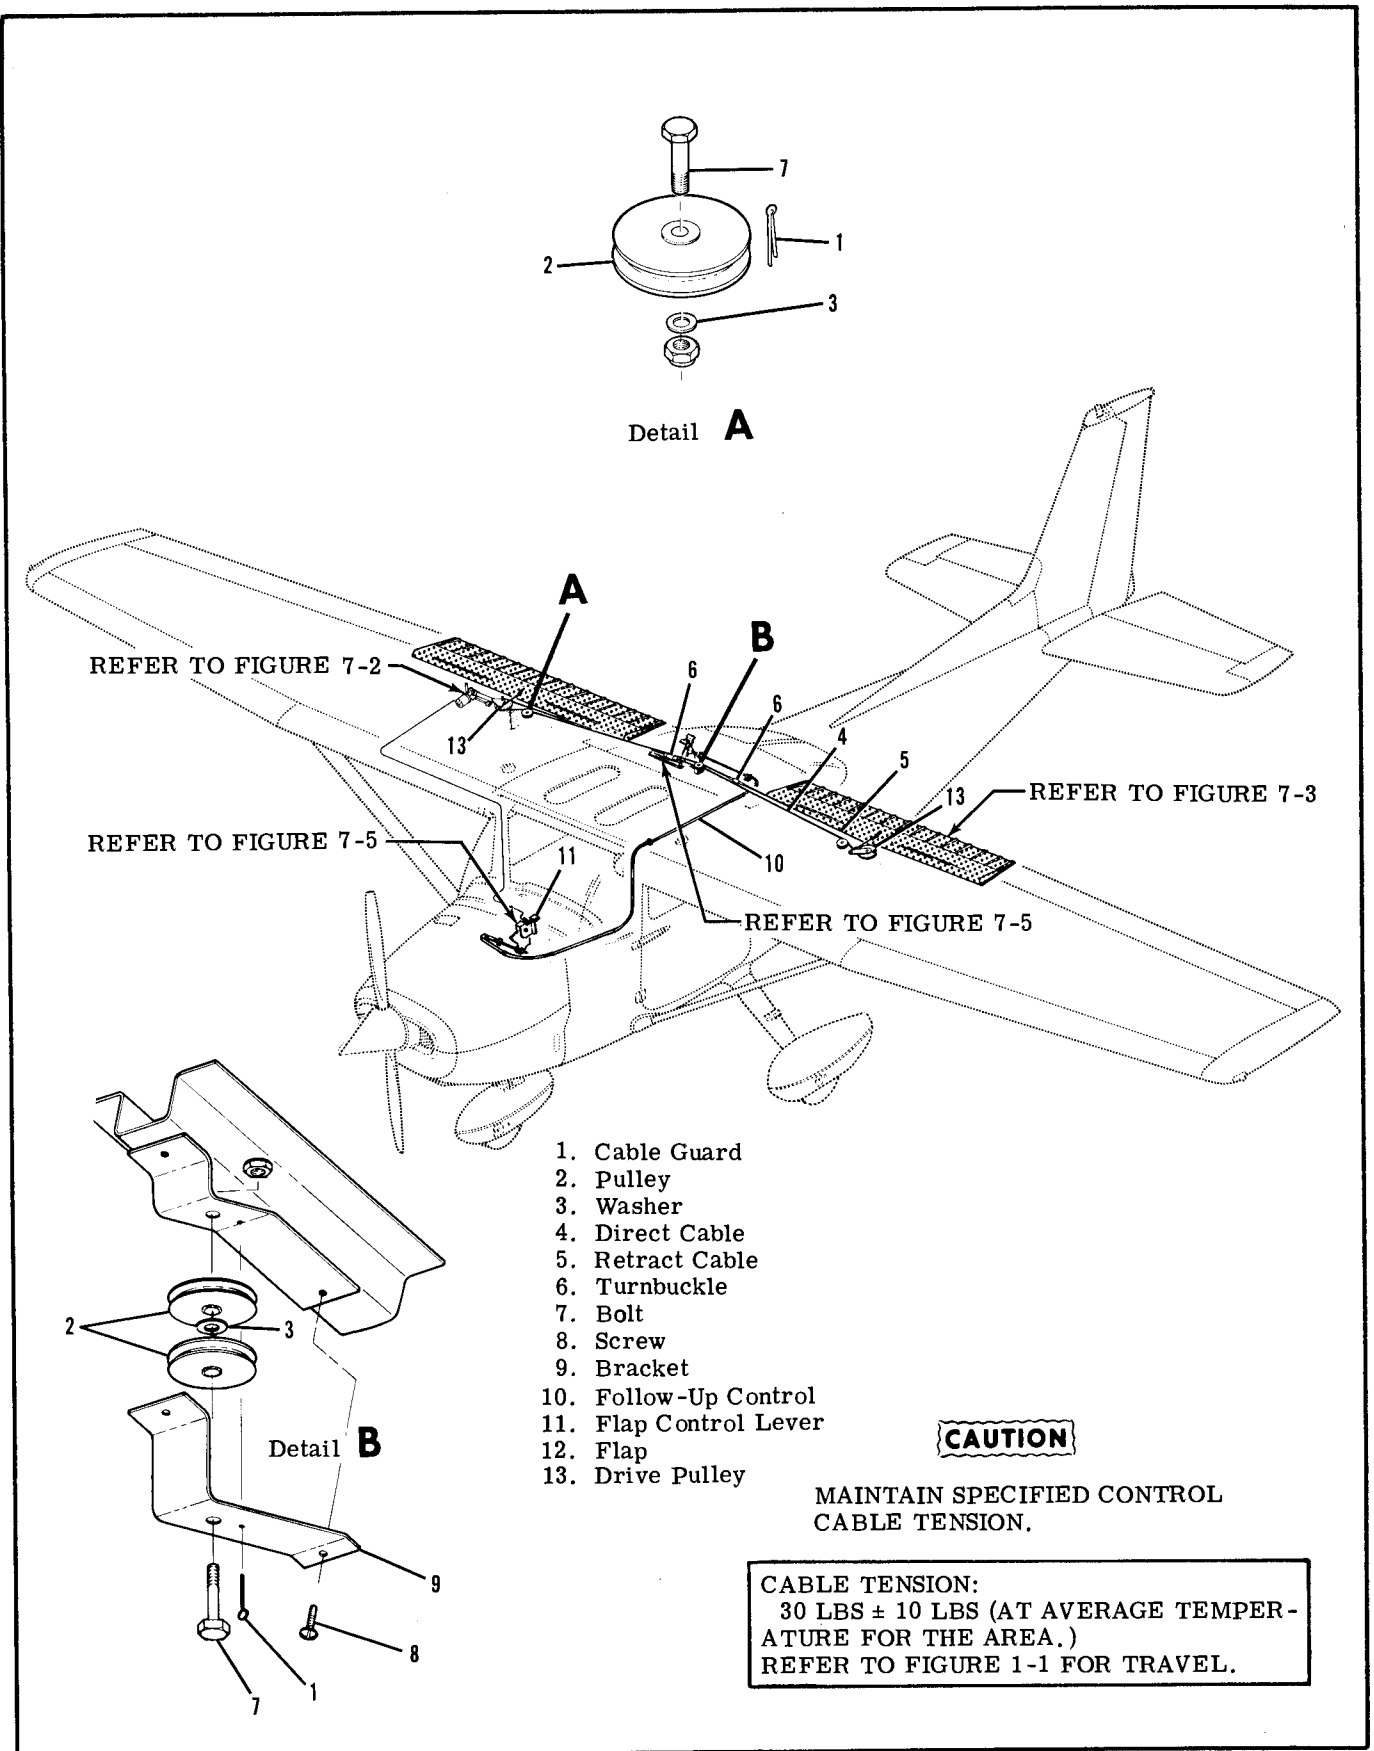

Figure 7-1. Wing Flap Control System
7-1. WING FLAP CONTROL SYSTEM. (Refer to figure 7-1.)
- a. Remove access plate adjacent to drive pulley (14) in right wing.
- b. Unzip or remove headliner as necessary for access to turnbuckles (index 6, figure 7-1), remove safety wire and loosen turnbuckles.
- c. Remove bolt (20) securing flap push-pull rod (15) to drive pulley (14) and lower RIGHT flap gently.
- d. Remove bolt (21) securing actuating tube (5) to
7-14. CABLES AND PULLEYS. (Refer to figure 7-1.)
- a. (Refer to figure 7-1.) Unzip or remove headliner as necessary for access to turnbuckles (6).
- c. (Refer to figure 7-1.) Remove safety wire, relieve cable tension, disconnect turnbuckles (6) and carefully lower left flap.
Temporarily connect cables at turnbuckles (index 6, figure 7-1) and test flaps by hand to ensure both flaps extend and retract together. If they will not, the cables are incorrectly attached to the drive pulleys. Ensure that the right drive pulley rotates clockwise when viewed from below, as the flaps are extended. Tag cables for reference and disconnect turnbuckles again.